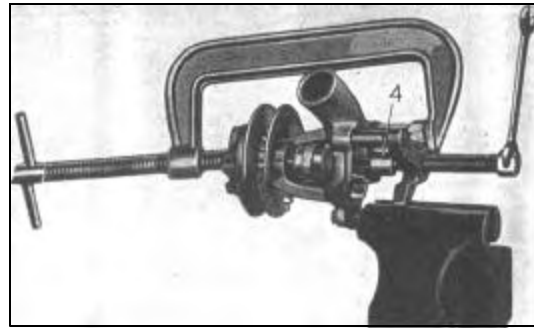

Figure 514—Pressing Impeller on Shaft
15. Put front thrust washer on pump shaft and insert shaft through bearings from front. Clamp shaft in assembly with large C clamp as shown in Figure 514, or by placing in jaws of vise. (If vise is used, protect machined face of pump housing against damage.) Put rear thrust washer and impeller on shaft. With pilot (4) in place, tighten screw to press impeller on shaft. Back off screw and remove fixture from pump.